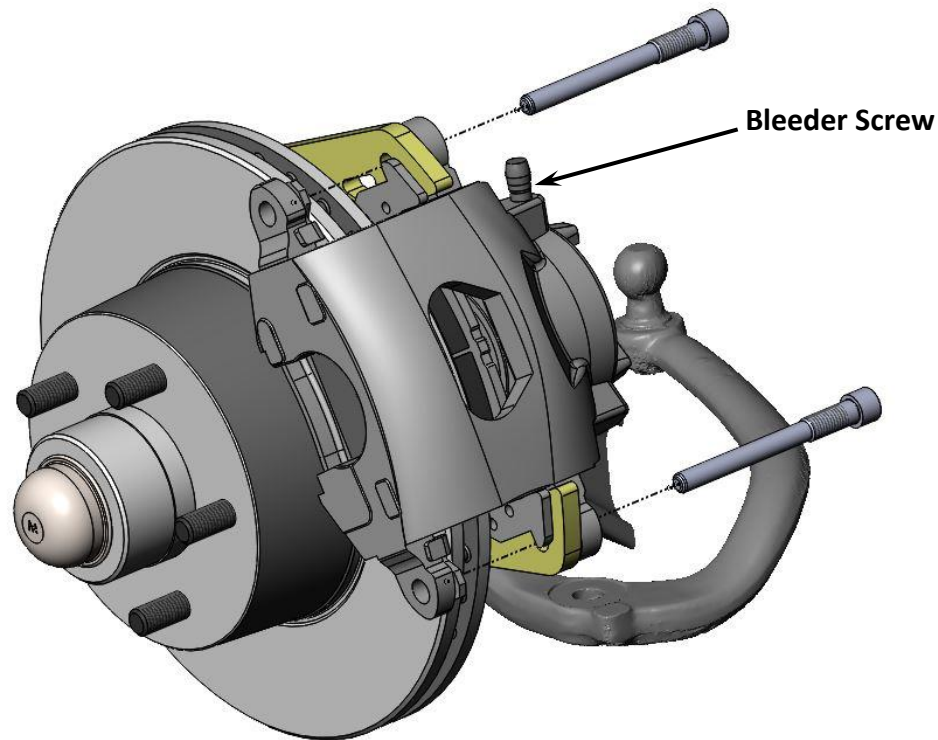

Figure 7 – Caliper Installed
9. Mount the caliper to the caliper mounting bracket. With the pads installed in the caliper, slide the caliper over the rotor and line up the mounting ears of the caliper with the holes in the caliper mounting bracket. Tighten and torque the bolts to 45 ft/lbs. **NOTE:** When installing the calipers, make sure the brake bleeders are pointing upward. See Figure 7 on the next page for reference.